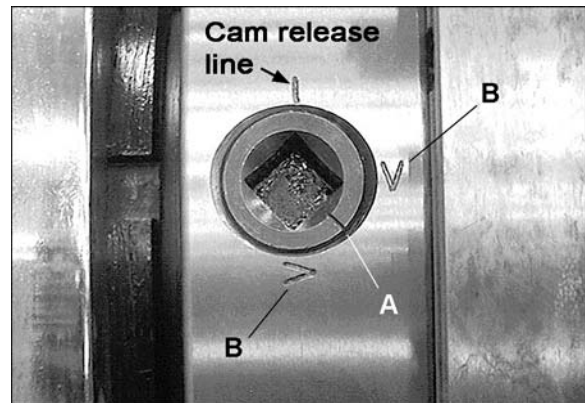

Figure 7: Camlock
5. Lift the chuck up to the spindle nose and press onto the spindle. Tighten in place by turning the camlocks 1/4 turn clockwise. The index mark (A, Figure 7) on the camlock should be between the two indicator arrows (B) when tight, as shown in Figure 7.
- If the index mark (A) is *not* between the two arrows, i.e. the cam turns beyond the indicator arrows, then remove the chuck and turn the camlock stud IN one full turn.